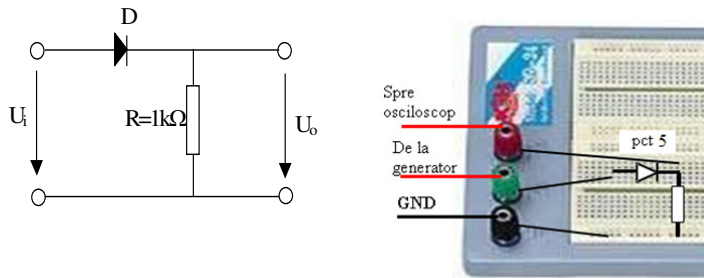

Figure 2: The schematic of the half-wave rectifier; realization example
a) Build the circuit from figure 2 on the solderless breadboard. The resistance is not part of the rectifier, it is merely a *load resistance* (this way, the circuit does not function without a load, which would be something unseen in common practice and may distort the signal, because too little current passes thru the diode).